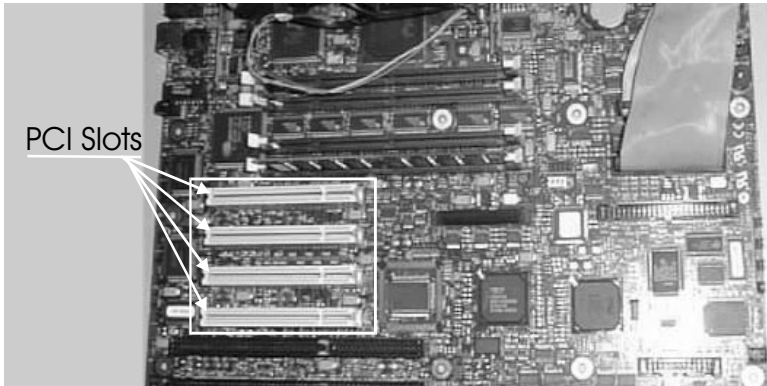

Figure 2-16. Identify SISL PCI Slot
1. Choose the dedicated PCI slot that was prewired for SISL functionality, (see your system documentation to identify the position of the SISL slot on your system board) as shown in Figure 2-16.